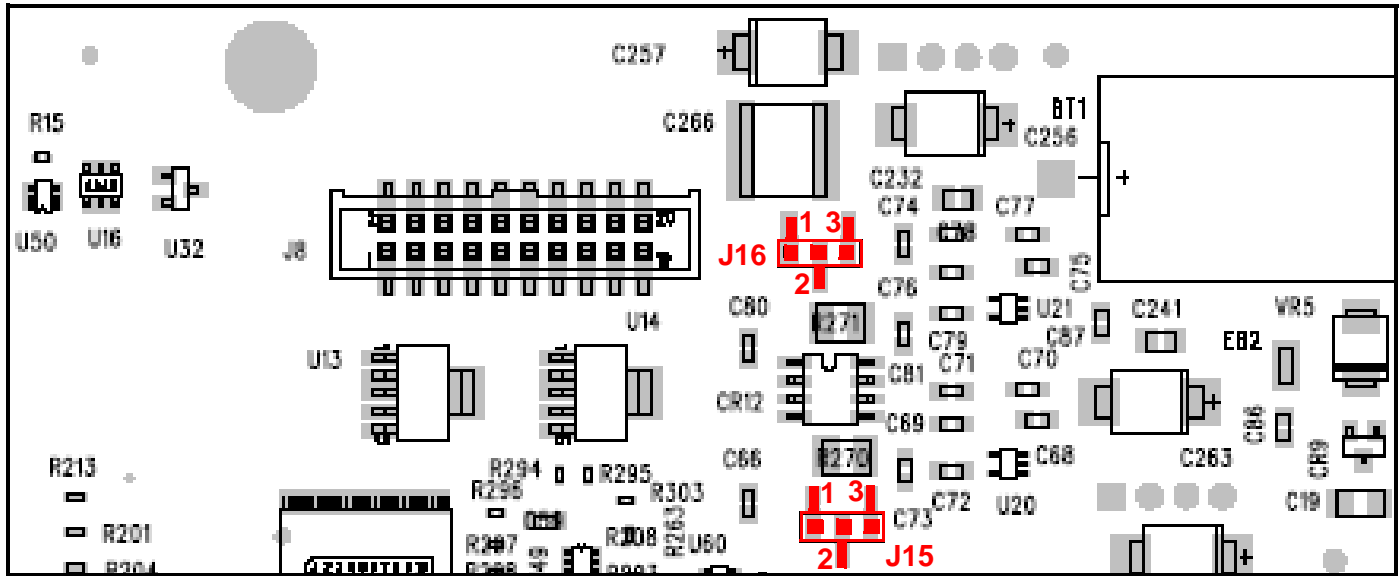

Figure 26: RS-485 Mode Termination - Install Jumpers at J15 and J16, Pins 1 and 2
- Using long-nose pliers, move jumpers J15 and J16 from pins 2 and 3 (default setting from factory) to pins 1 and 2 (see Figure 26 on page 26). J16 is the termination for port 1 and J15 is the termination for port 2. It is also recommended that basic ESD precautions such as grounded wrist straps be used for this procedure.